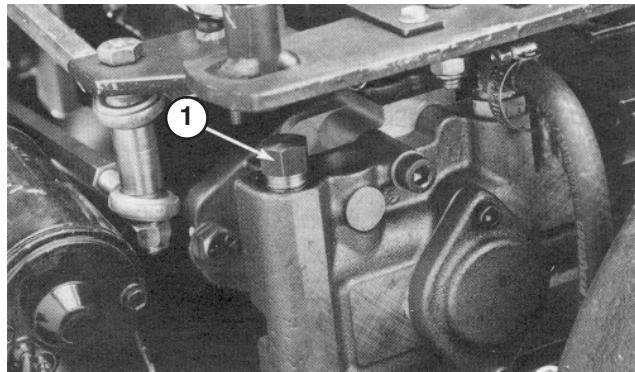

Figure 14
2. Locate the bypass valve cap on the left side of the hydraulic pump (Fig. 14).